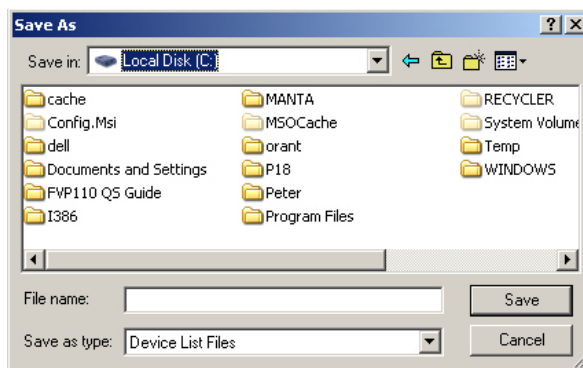

Figure 28 Device List Save As Window
1. Click **Load Devices Addresses from File**, click **New File** and Figure 28 appears.